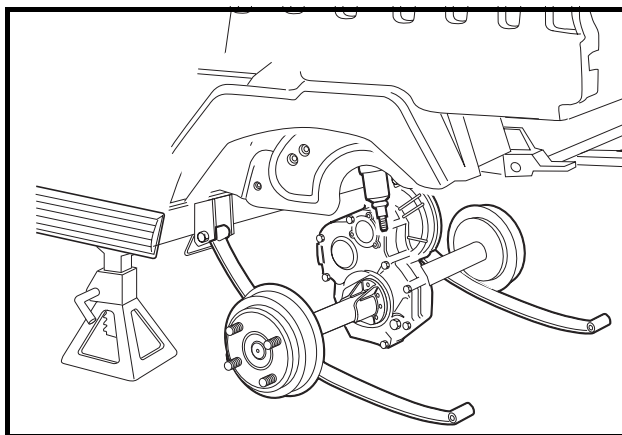

Figure 28-10 Leaf Springs
12. Remove the U-bolts attaching the transaxle to the leaf springs (**Figure 28-10, Page 28-6**).